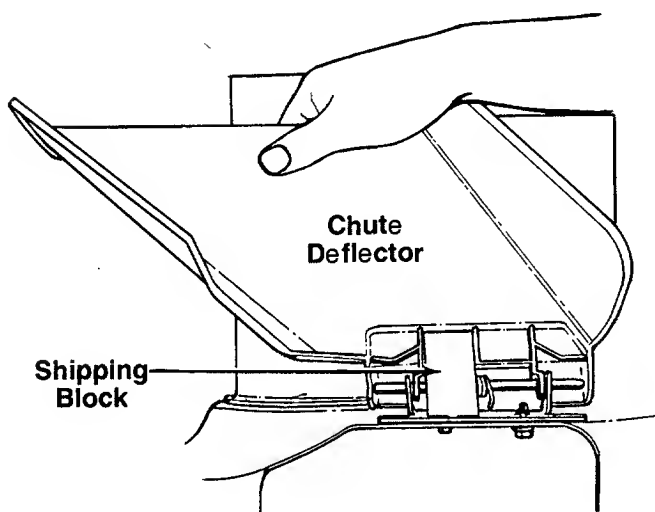

FIGURE 10.
1. The chute deflector on your mower is held in an upright position by a block for shipping purposes only. This shipping block must be removed and discarded before the mower is put into operation. See figure 10.